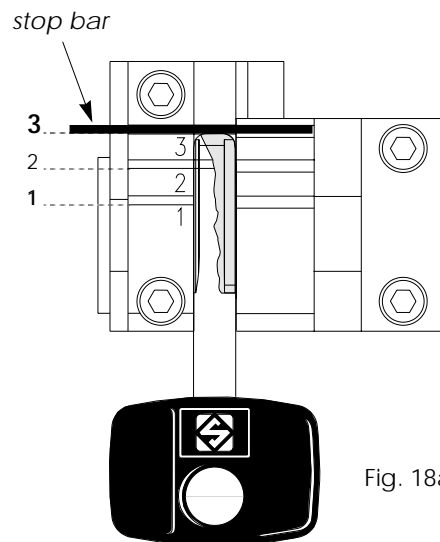

Fig. 18a
**1-2-3:** for keys with tip stop (Fig.18a)